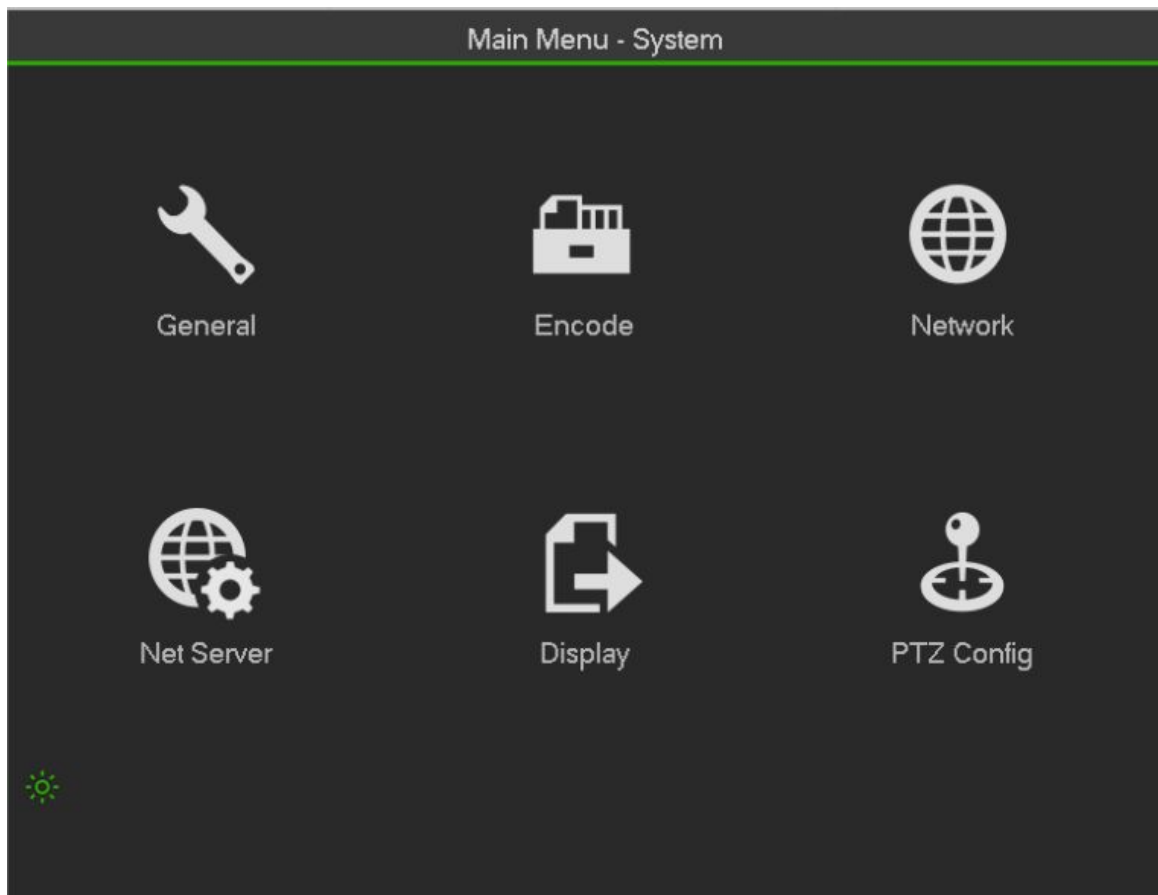

Figure 3-25
- Region: Click select button, the interface is shown as in Figure 3-25. Here you can set motiondetection zone. There are four zones for you to set. Please select a zone first and then left drag themouse to select a zone. The corresponding color zone displays different detection zone. You canclick Fn button to switch between the arm mode and disarm mode. In arm mode, you can click thedirection buttons to move the green rectangle to set the motion detection zone. After you completedthe setup, please click ENTER button to exit current setup. Do remember click save button to savecurrent setup. If you click ESC button to exit the region setup interface system will not save yourzone setup.